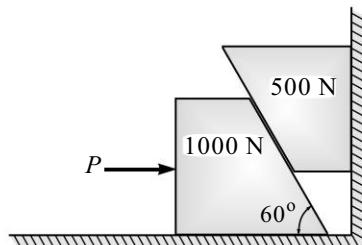

Fig. 8.E32
33. Block A weighs 25 kN and block B 18 kN in Fig. 8.E33. μ for all surfaces is 0.11. For what range of values of P will the system be in equilibrium.